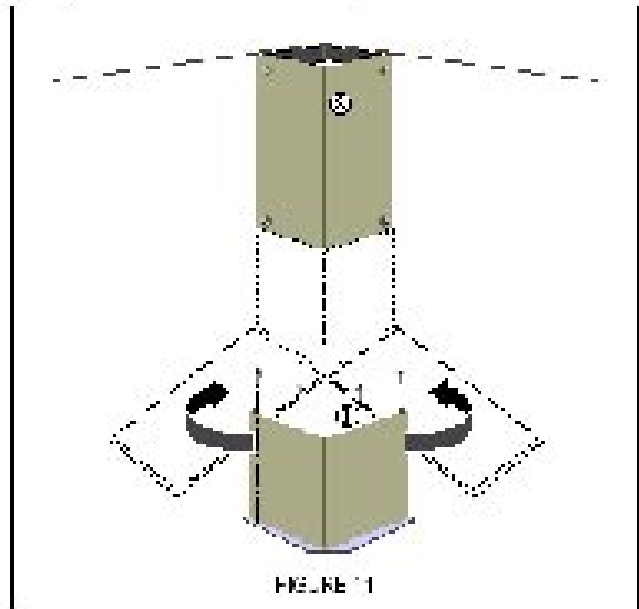

FIGURE 11
11. Once the upper section is installed, then the lower section must be installed (J in FIGURE 11). Both sections are secured to the wall under the mounting brackets. Once the chimney is in the final position, screws are used to secure the top and bottom of the chimney to the brackets.